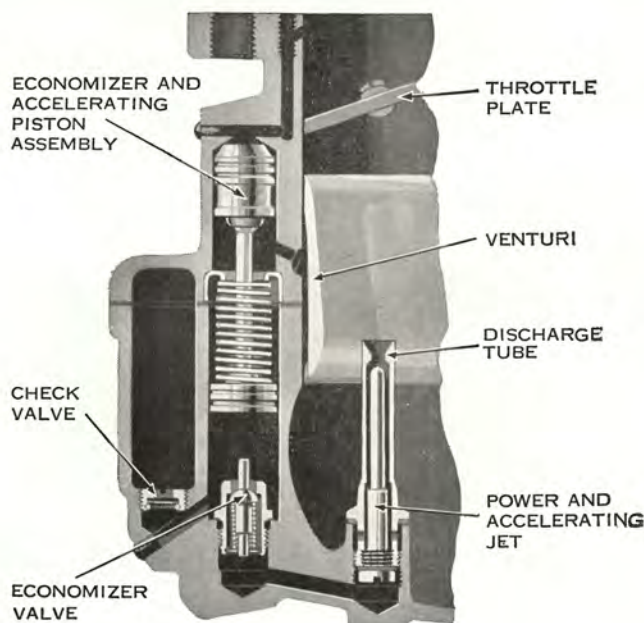

Figure 9
**FULL POWER AND ACCELERATION:** Full power, either for top speed or hard pulling, requires a richer mixture than part throttle operation. So does acceleration. See Figure 9.